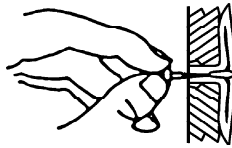

Figure 10 - Popping Open Anchor Wing For Thin Walls
4. For thin walls (1/2" or less), insert red key into wall anchor. Push red key to "pop" open anchor wings (see Figure 10).